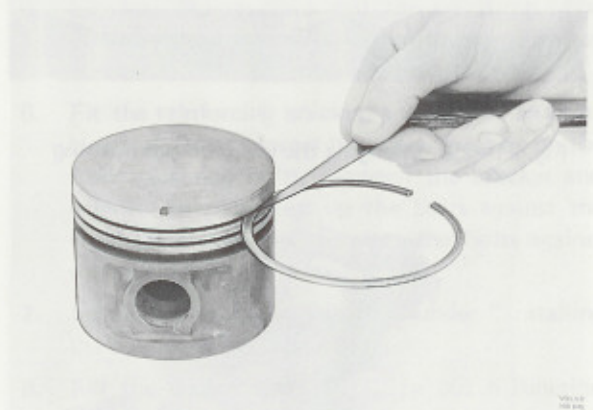

Fig. 21-28. Measuring the piston ring clearance in groove
5. Check the piston rings in the respective ring grooves by rolling them in the groove. Also measure the clearance at several points, Fig. 21-28. This clearance should be 0.040-0.072 mm (0.0016-0.0028") for both compression rings and the oil scraper ring.